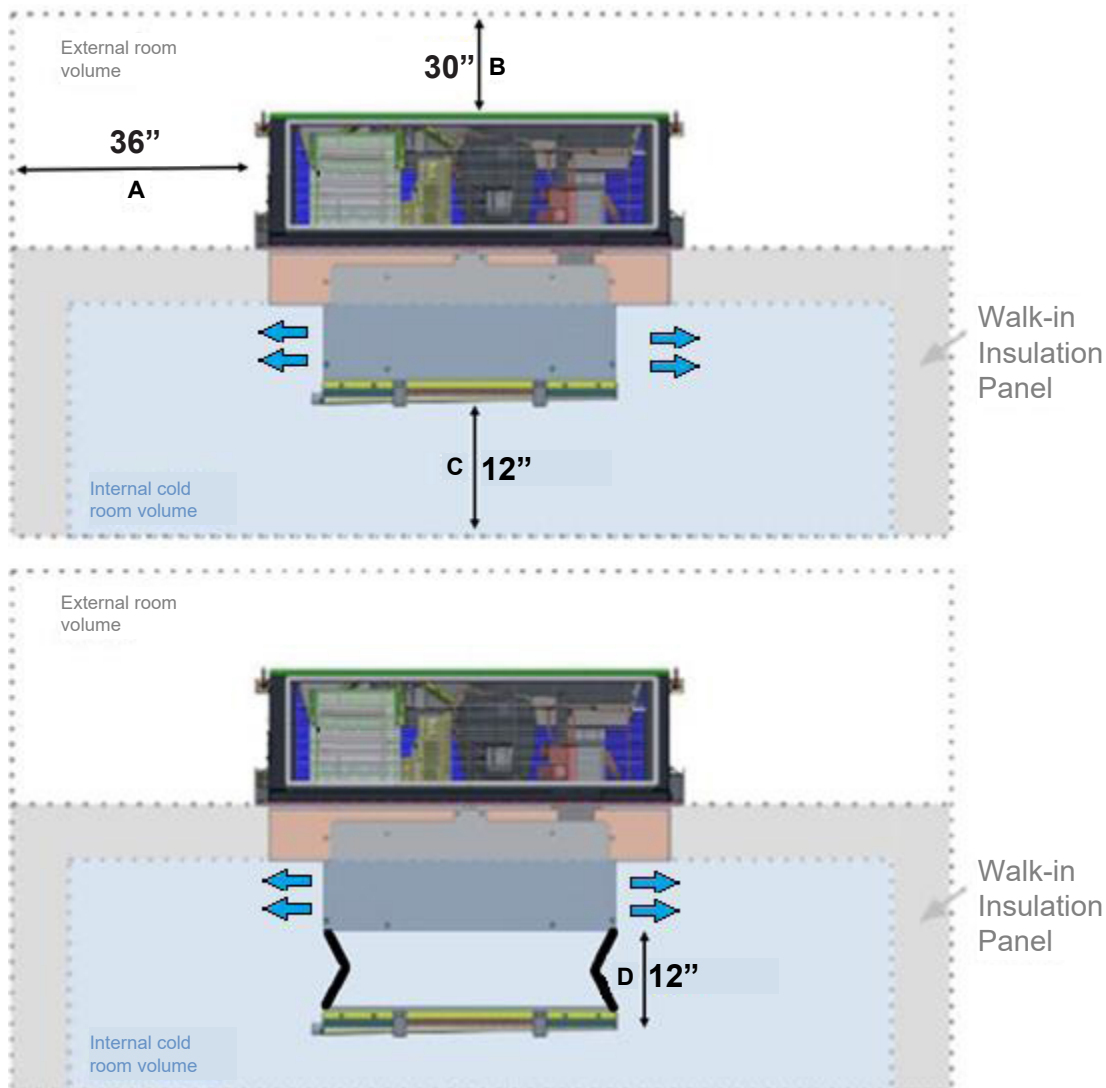

Figure 6 – Service Access Dimensions
- For service purposes, the recommended minimum distances are shown in the Figure 6: